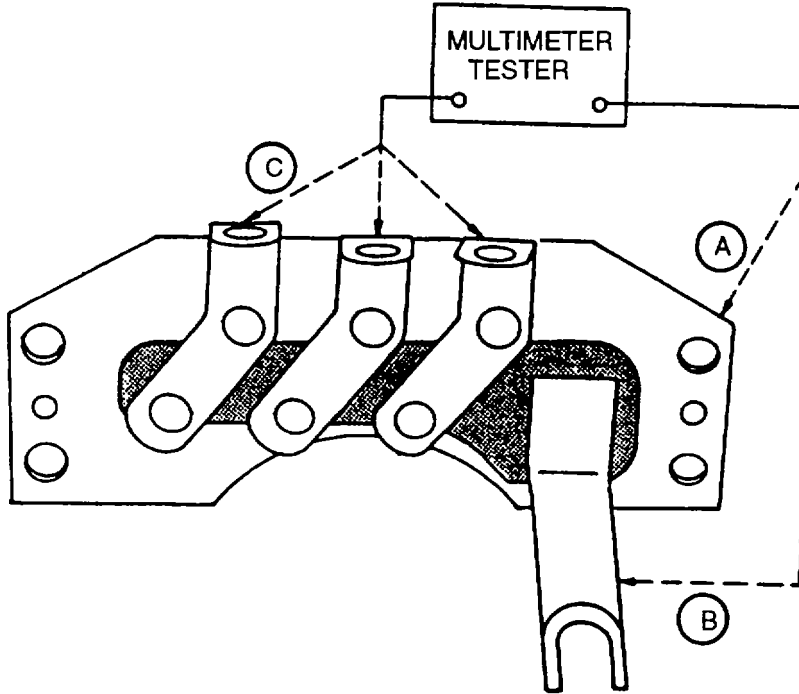

FIGURE 3-10. Testing Rectifier Bridge
- c. Set multimeter for ohms and check rectifier bridge assembly (refer to FIGURE 3-10) by noting multimeter indications between point A and each point C, and between point B and each point C. Reverse leads, repeat checks, and note indications. If readings are the same in both directions for any diode, replace entire rectifier bridge assembly. A good diode will have a high indication in one direction and a low indication in the other.